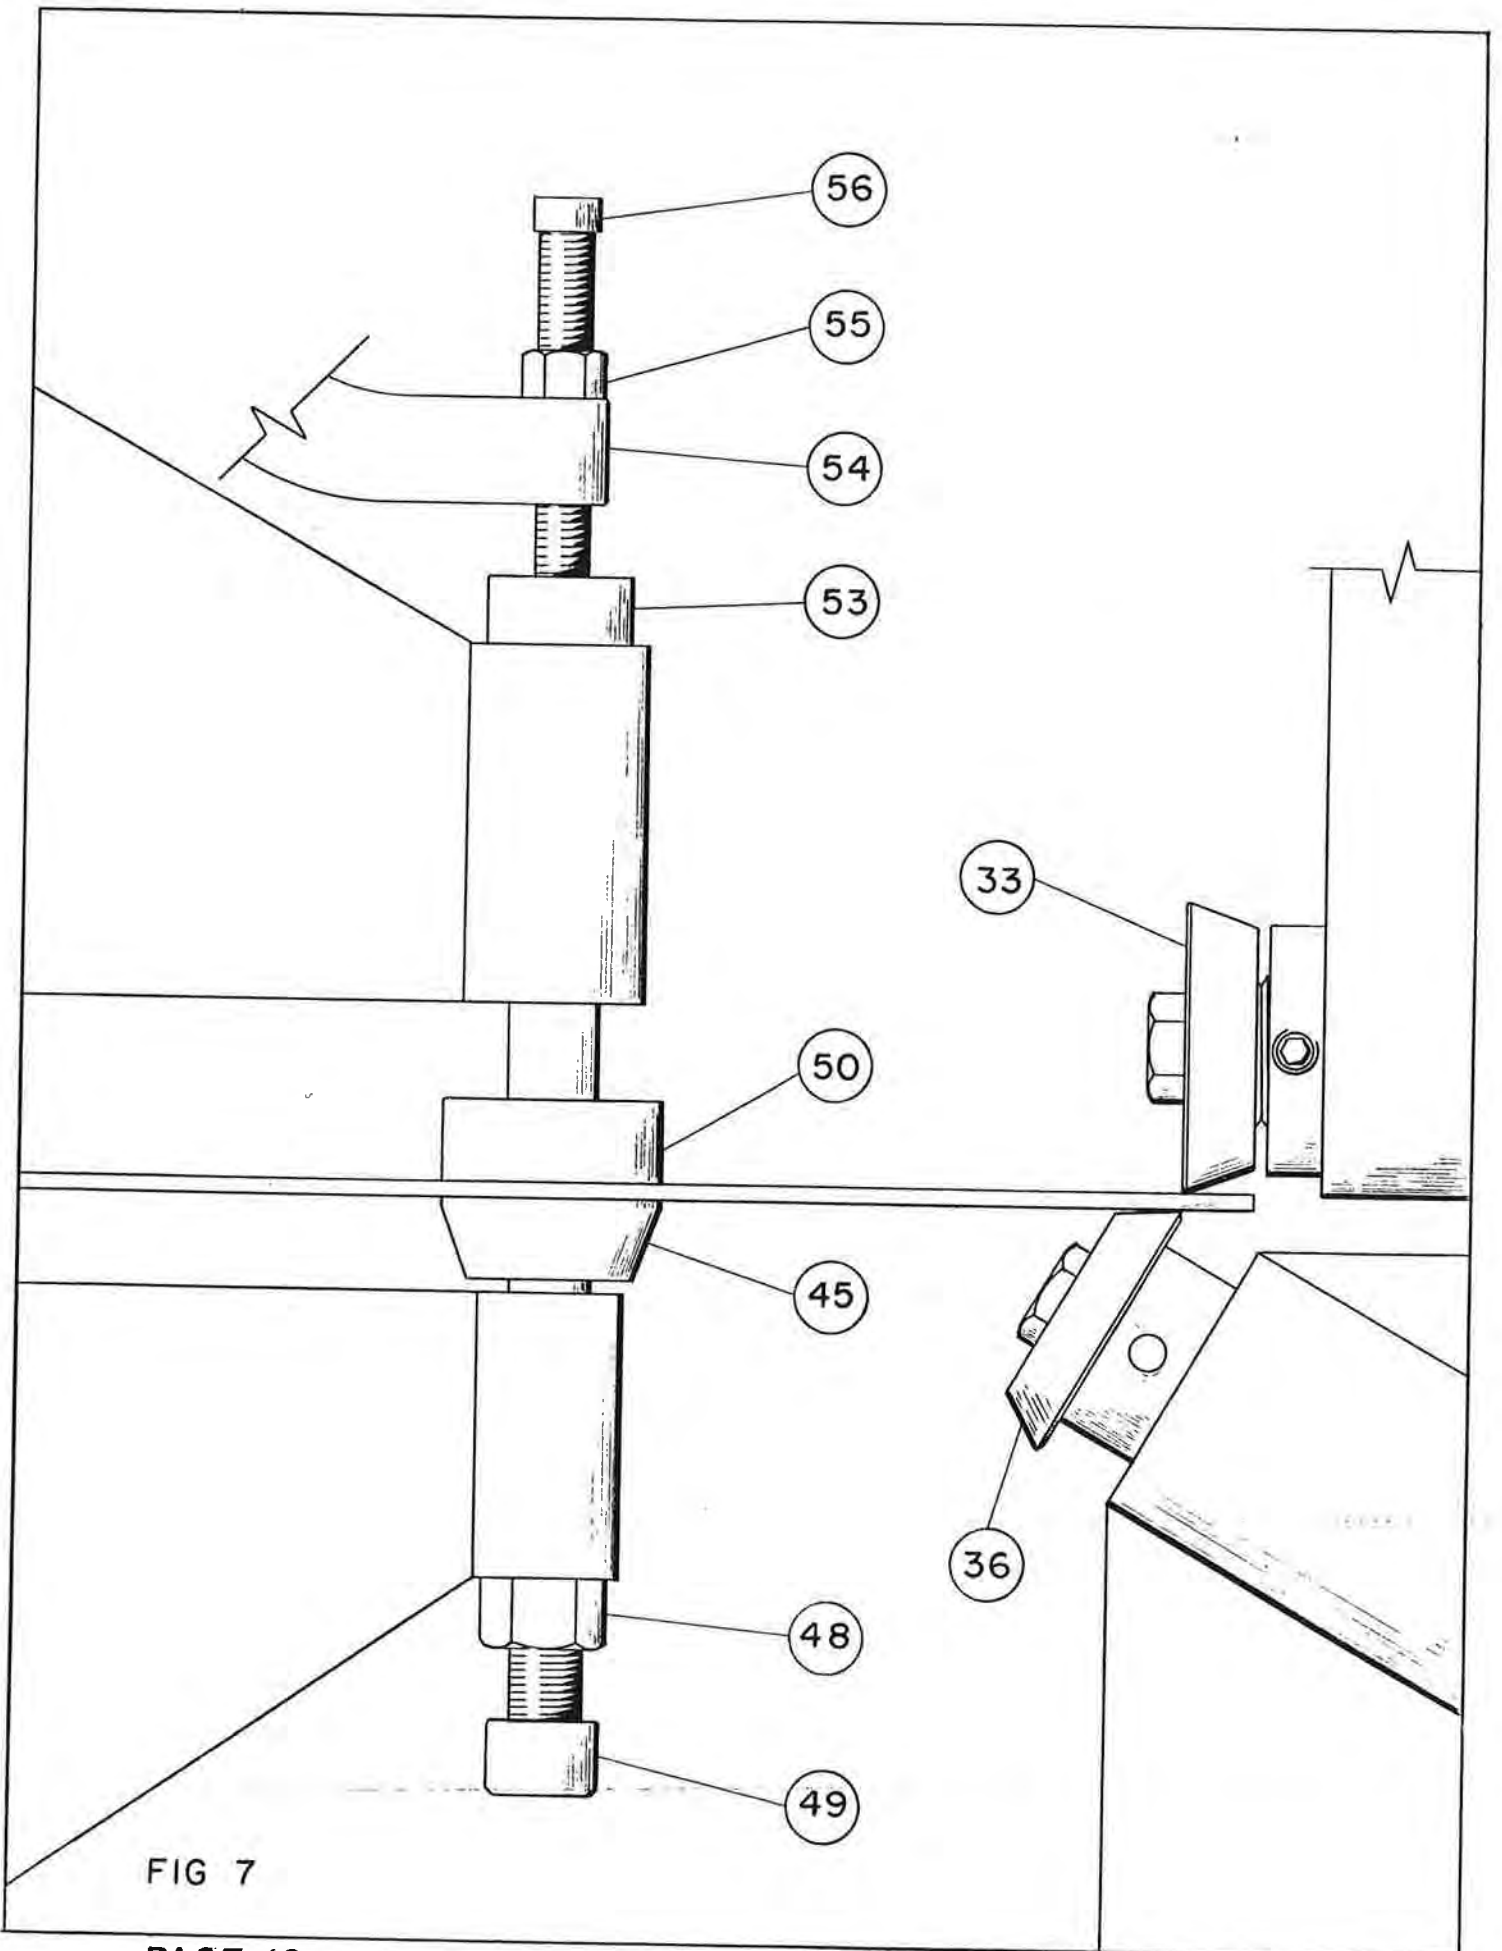

FIG 7
10. Place material to be cut in clamping plates #45 & 50 Fig. 7 Page 10 centering material in clamping plates for minimum runout. On first few trials, material should be at least 1" larger than diameter to be cut.
11. Check to be sure that blank material is resting level on lower cutting blade #36 Fig. 7 Page 10; use adjusting screw #49 Fig. 7 Page 10 to raise or lower material blank to desired height.
12. #56 adjusting screw controls the clamping pressure of the upper clamp plate #50 Fig. 7 Page 10. Make sure that clamping pressure is not too tight or this will cause the bearings to bind and the material will not turn freely, also the material will raise off the lower cutting blade and distort; if the material is too loose it will pull from between the clamping plates #45 & 50 Fig. 7 Page 10 creating several diameter rings on top of the material as it creeps out. The material should spin freely by hand with a slight amount of back pressure when the pressure is right.
Loosen the lower clamp plate locknut #48 (1) then turn the socket head cap screw adjusting screw #49 (1) right to raise the clamping plate and left to lower it. By adjusting the lower clamp plate screw #49 (1) up or down, you can get the material to rest on the lower cutting blade or flanging roller as shown in Fig. 7 Page 10, this is a very important step in setting the machine up for operation. After the material blank is resting on the lower cutting blade #36 (1) as shown in Figures 7 & 8 Page 10 & 11 tighten the adjusting screw locknut #48 (1) while holding the adjusting screw #49 (1) to keep the clamp plate from getting out of align with the lower cutter or flanging roller.
(1) See Fig. 7 Page 10